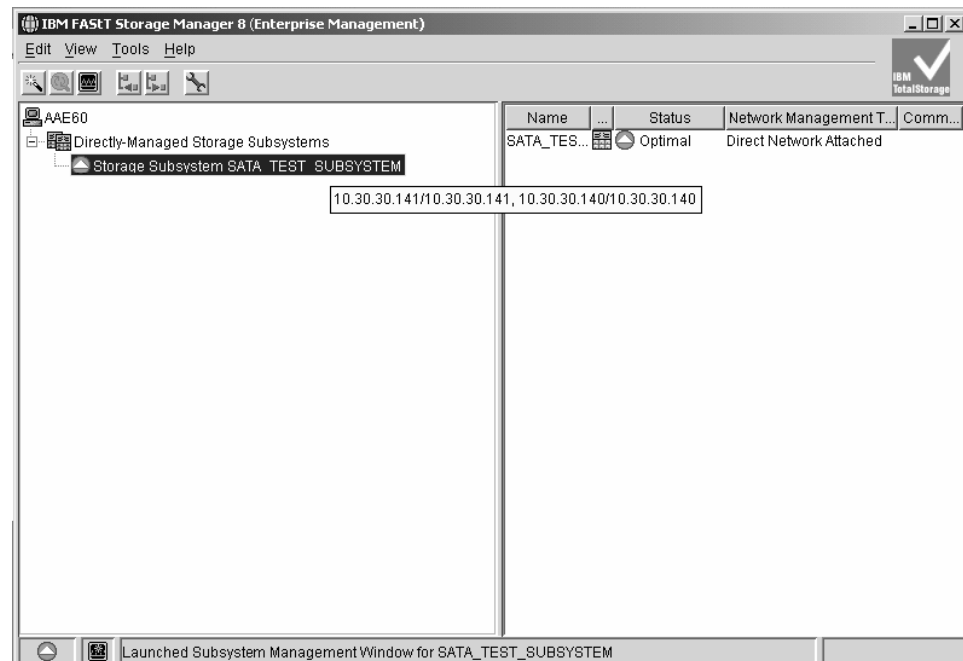

Figure 67. Only one entry appears in the Directly-Managed Storage Subsystem tree
- If controller A starts up successfully after synchronizing with the firmware and NVSRAM in controller B, controller A and controller B will be displayed as a single entry under the Directly-Managed Storage Subsystem tree in the Enterprise Management window as Figure 67 shows. Right-click the entry for controller B and select **Manage Device**. A Subsystem Management window should open without being preceded by the Partially Manage Device window.